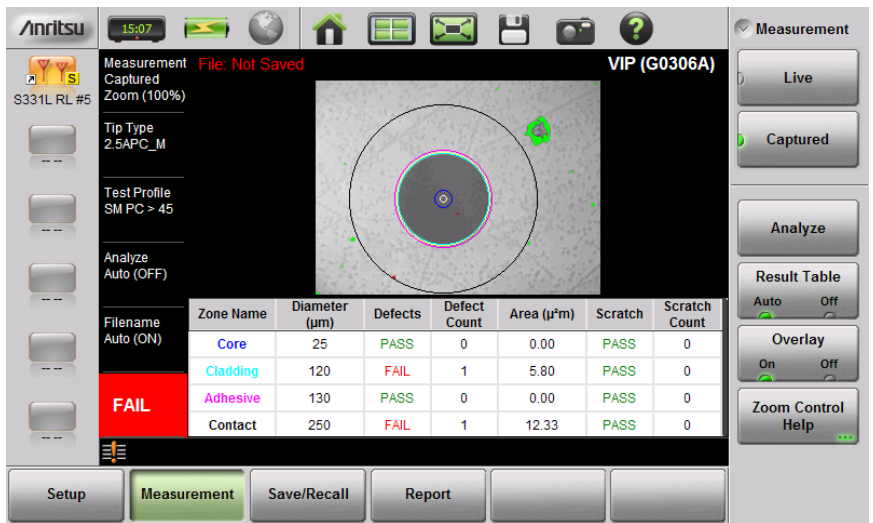

Figure 12-6. VIP Image Captured and Analyzed
- 6. Press the Results Table submenu key to show or hide the detailed analysis results. See Figure 12-6. For each of the analysis areas, or zones (core, cladding, adhesive, contact), the table shows the count of scratches and contaminations or defects, and their Pass/Fail evaluation results. The table will not appear if there are no analysis results to display.